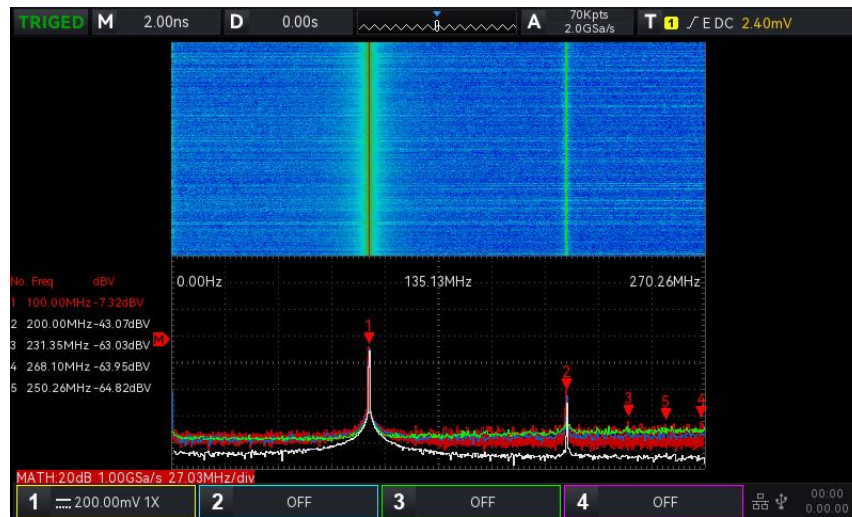

Figure 17-3
- e. Waterfall curve 2: Spectrum and waterfall curve split to two windows to display. Waterfall curve shows the time changing of dB value in spectrum. It has "record" function. Waterfall curve can only select when enhance FFT is opened. The maximum record 200 spectrum which corresponds to waterfall curve, as shown in Figure 17-3.